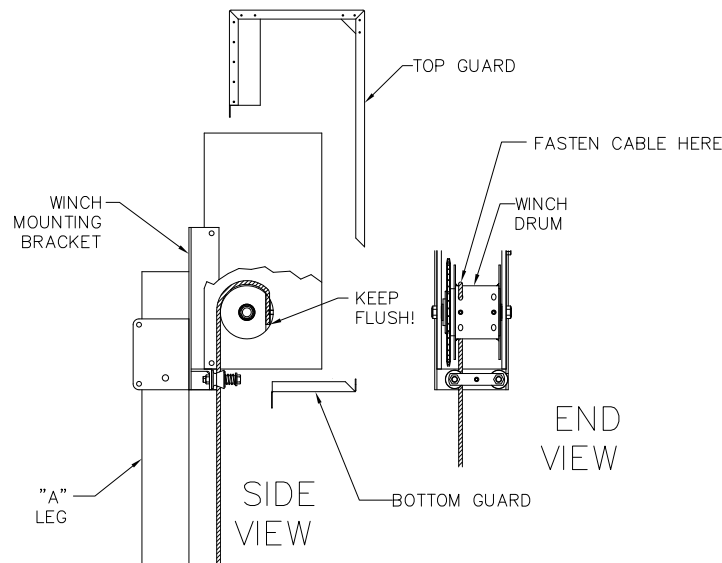

Figure 3-11.
1. Refer to Figure 3-11. Remove the top and bottom guards from the winch housing by removing the (4) ¼ -20 pan head screws.